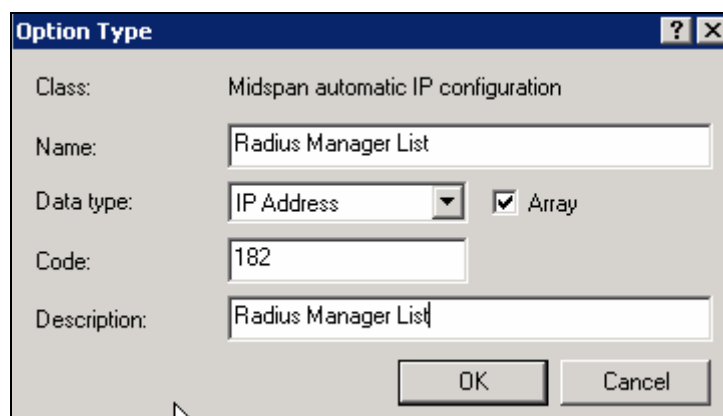

Figure 4-29: RADIUS Option Type
- Repeat the same procedure to create the SysLog Manager List and Radius Manager List Option Type (Figure 4-28 and Figure 4-29).